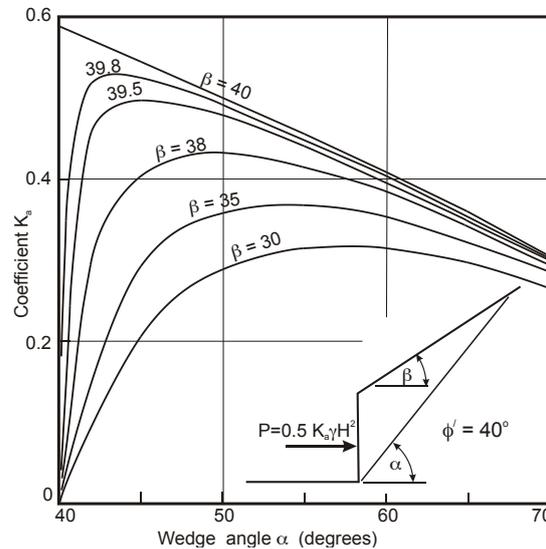

Figure 5. Values of K_a versus wedge angle α for dry cohesionless slopes with $\phi = 40^\circ$.
Figure 5 illustrates graphically the solution given by equations (10) to (13)